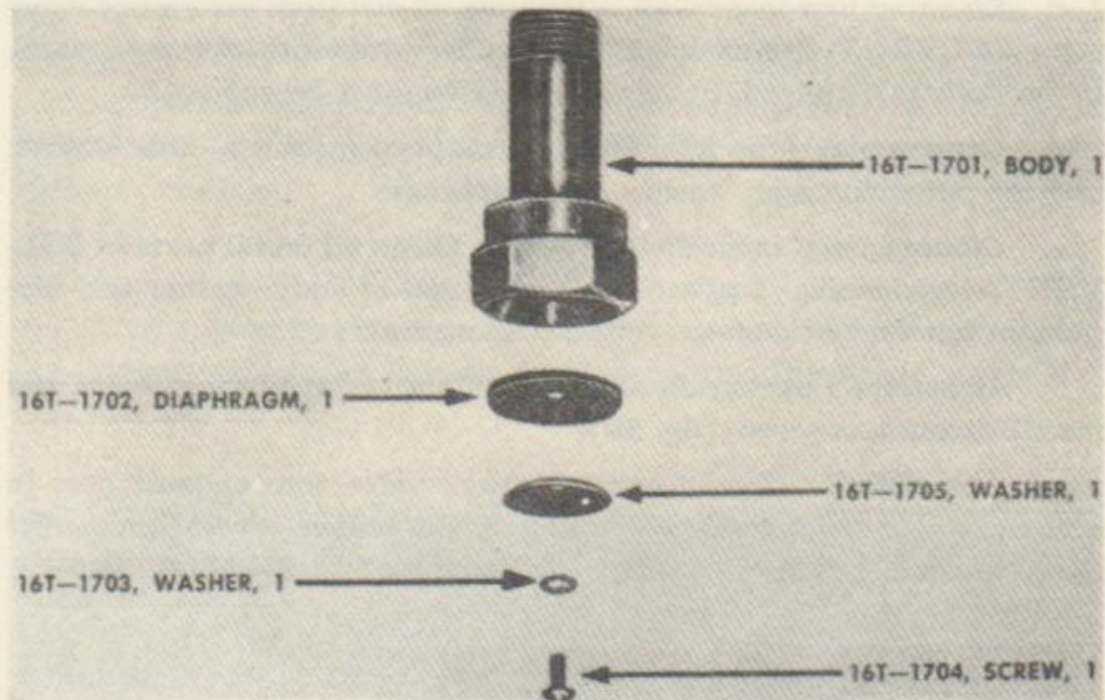

FIGURE 38. EXHAUST CHECK VALVE—EXPLODED VIEW
d. Disassembly (fig. 38). Remove diaphragm screw, lock washer, and lift out diaphragm washer and diaphragm.
f. Assembly. Position diaphragm and washer in place in body and install diaphragm screw (fig. 38).